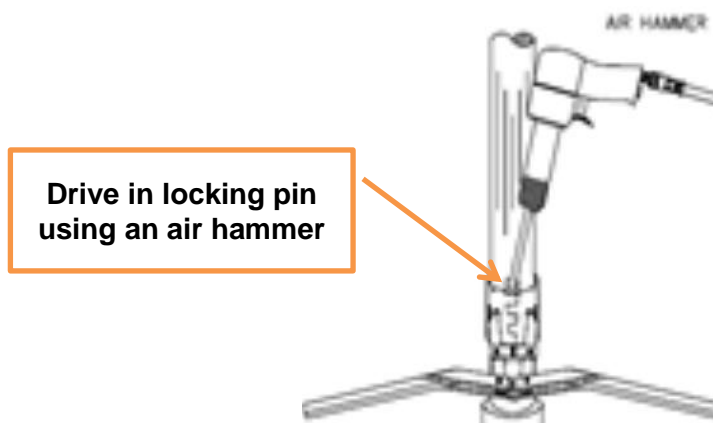

Figure 21. Use a pneumatic air hammer to drive locking pin in place.
3. Use a pneumatic hammer to drive the locking pin into the clamp. Figure 21.